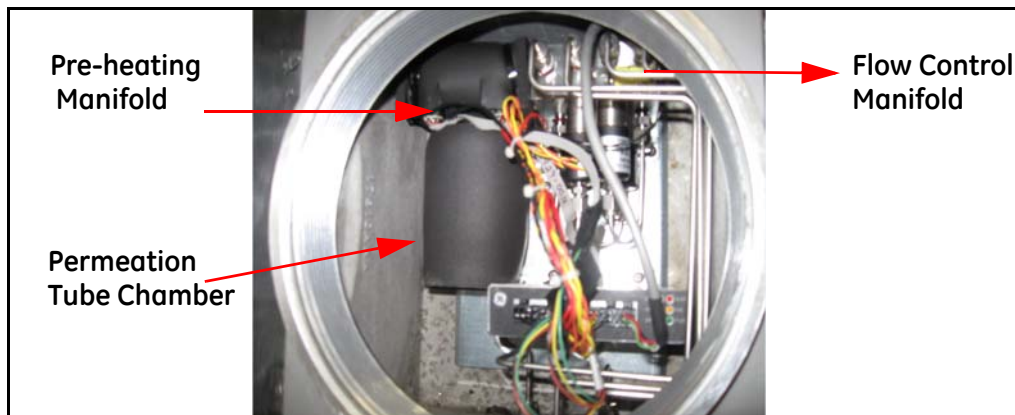

Figure 80: Verifier Interior
4. Open the front cover of the verifier's enclosure and wait 20 minutes for verifier to cool down (Figure 80).